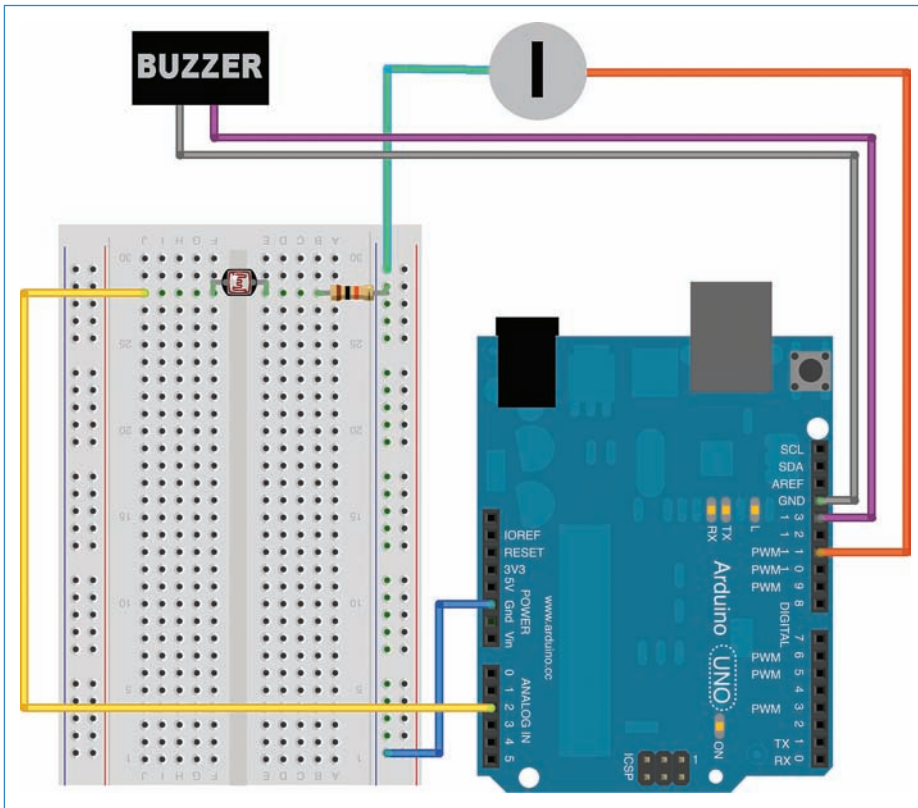

FIGURE 2.11 Wiring up the sensor module is more complicated than the other one, but still not too difficult!
Now move on to building the sensor module (see Figure 2.11) as follows:
2. Plug in the photoresistor and the resistor to the breadboard, as shown in Figure 2.11. Note that one end of the resistor plugs in to the ground bus.
3. Connect the buzzer to the Arduino. The black wire plugs in to GND, and the red wire plugs in to port 13. (Note that I use different colored wires in Figure 2.11 to help differentiate the wires; you need not use wires of these colors unless you really want to.)